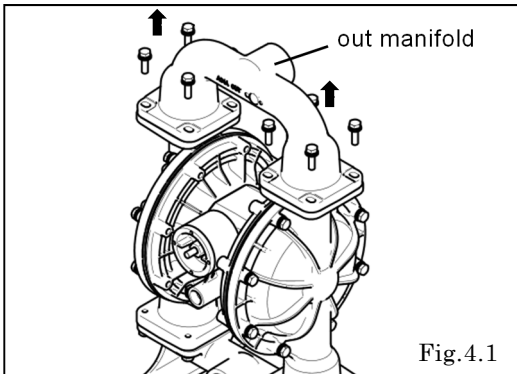

Fig.4.1
- Remove the 8 retainer bolts from the out manifold, and remove the out manifold. <Fig.4.1>